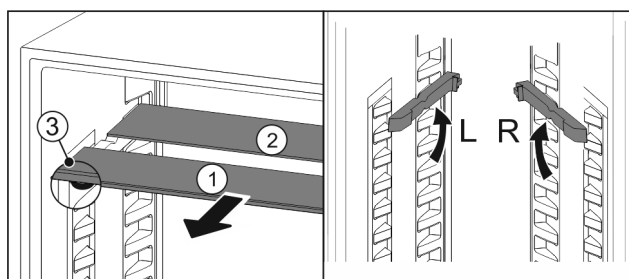

Fig. 125
- Pull the glass panels out Fig. 125 (1) from the front, one at a time.
- ▷ The glass panel *Fig. 125 (1)* and trim strip are at the front.
- ▷ The stops *Fig. 125 (3)* point down.